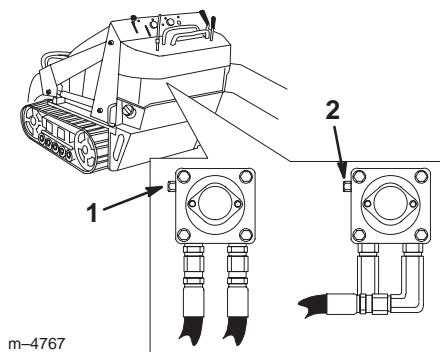

Figure 14
3. Using a wrench, turn the tow valves on the hydraulic pumps twice counter-clockwise (Fig. 14).